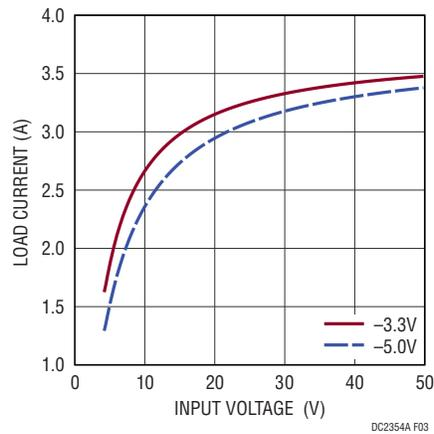

Figure 3. Output Current vs. Input Voltage Derating Charts
2. Turn on  $V_{OUT^-}$  of the circuit by inserting the shunt in header JP2 (RUN) into the ON position. The output voltage should be regulating. Measure  $V_{OUT^-}$  and it should measure  $-5.0V \pm 2\%$ . Vary the current load, which should not exceed 4A. Vary the input voltage from 3.5V to 55V, the  $V_{OUT^-}$ , it should measure  $-5.0V \pm 2\%$ . Maximum load current is function of input voltage and should be changed accordance to derating graphs on Figure 3.